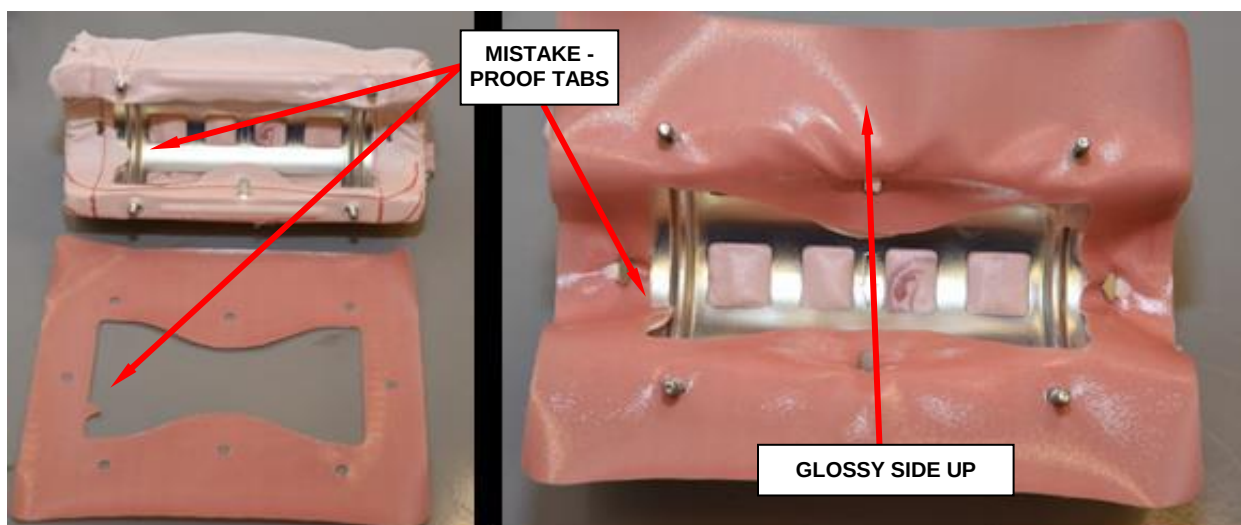

Figure 99 – Fabric Gasket to Cushion
- i. Place the fabric gasket, glossy side up, onto cushion. Mistake-proof tab should be aligned to the tab on the cushion (Figure 99).